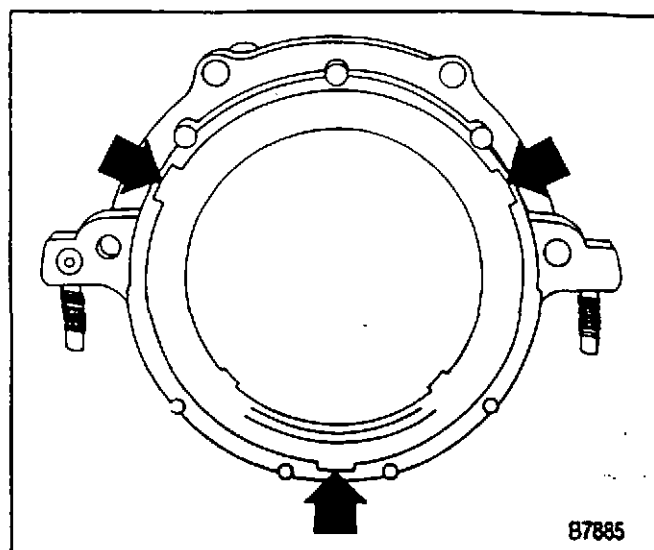

Figure 16—Seal Removal Notches
- ↔ Remove or Disconnect (Figure 16)**
- Crankshaft rear oil seal. Insert a screwdriver into the notches provided in the seal retainer and pry the seal out (figure 16).